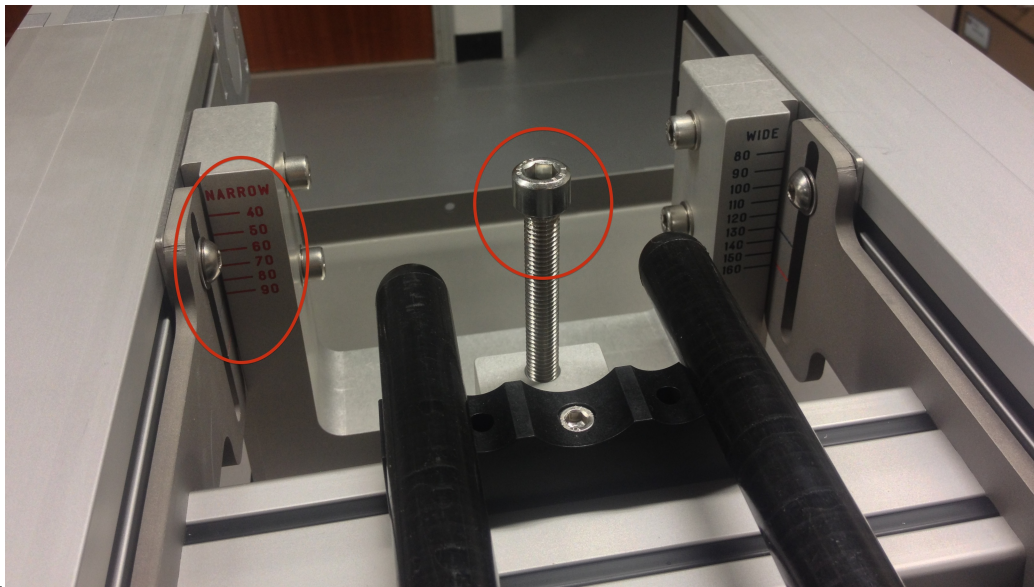

Figure 5. Ladder height adjustment and scale.
2. The height of the core section in the device should be adjusted by jacking the ladder section up or down using the 2 M10 adjustment bolts at either end of the ladder (see Figure 5) ensuring that the locking bolts are loosened before adjustment. Positioning is aided by a scale at either end of the adjustable ladder in the centre of the splitter and this should be used to position the ladder approximately before finer adjustments are made with a core section in place. The scale marked in blue is for the wide rail setting and the scale in red for the narrow rail setting. Both ends of the ladder should adjusted to the same height to avoid producing wedge shaped half cores.